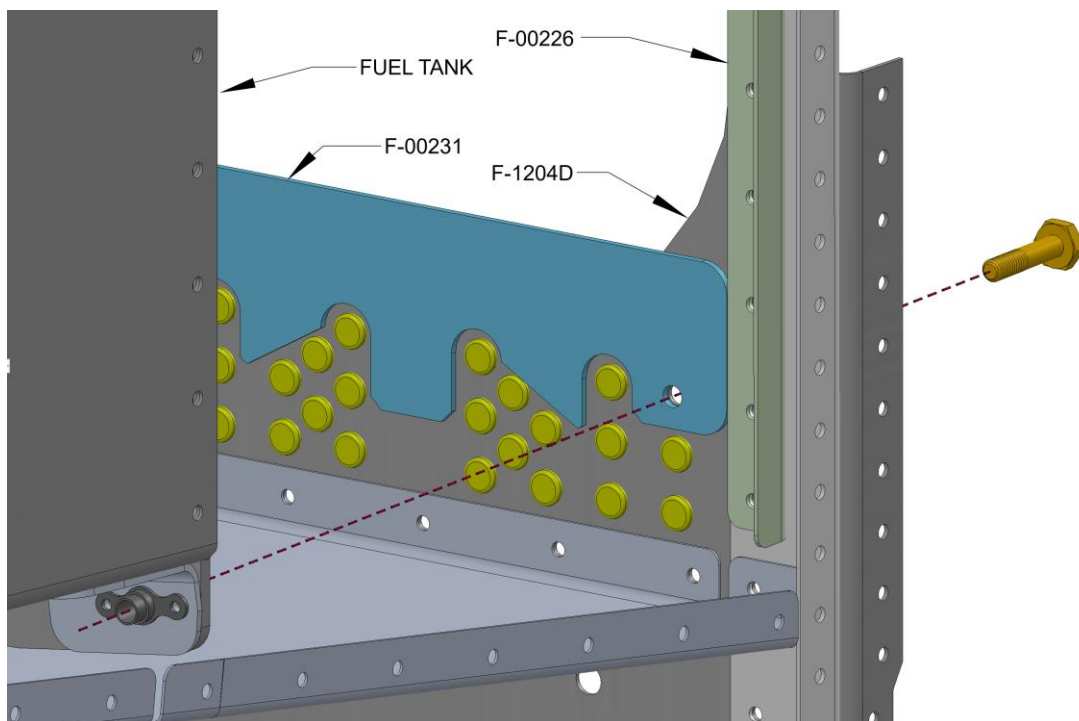

FIGURE 14: INSTALLING THE FUEL TANK SPACER.
Step 59: Place the F-00231 Fuel Tank Spacer between the fuel tank and the F-1204D Center Section Aft Bulkhead, such that the two AN3-7 bolts on the forward side of the fuel tank go through the two holes of the F-00231 as well as through the F-1204D and F-1204E. Refer to Figure 14. The jagged segment of the F-00231 should be on the lower right side, so as to fill the space between the newly-installed rivet heads. Due to this spacer, the fuel tank will be "squeezed" between the spacer and the F-1207 baggage bulkhead. The baggage bulkhead is flexible enough to accommodate the new position of the fuel tank, 0.063 in. [1.6 mm] further aft.